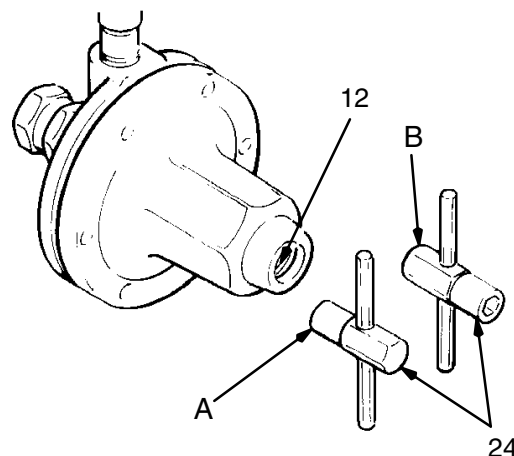

Fig. 3
- a. *Spring Operated Regulators Only (see Fig. 3).* The regulator can be fully opened in two ways:
- Using the male end (B) of the regulator key (24), turn the socket-head adjustment screw (19) fully *counterclockwise*. The pressure setting will be retained.
- Using the female end (A) of the regulator key (24), turn the adjustment screw (12) fully *clockwise*. You will have to reset pressure after flushing.
a. *Spring Operated Regulators Only (see Fig. 3).* The regulator can be adjusted in two ways:
- Using the male end (B) of the regulator key (24), turn the socket-head adjustment screw (12) fully *clockwise*. Verify that the pressure setting has not changed.
- Using the female end (A) of the regulator key (24), turn the adjustment screw (12) *counterclockwise* to return to the desired pressure setting.
1. Close the regulator: engage the female end (A) of the key (24) with the adjusting screw (12) and turn it counterclockwise to relieve the spring tension. See Fig. 3.
3. Turn the key (24) *clockwise* to increase fluid pressure. See Fig. 3. Adjust for the desired spray pattern.